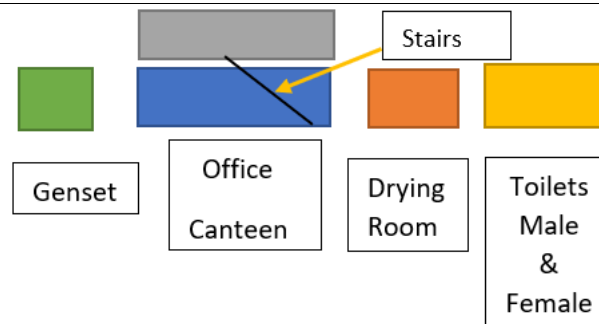

Figure 1
- The office will be put on top of the canteen with a stair access (See Figure 1 Page 3)